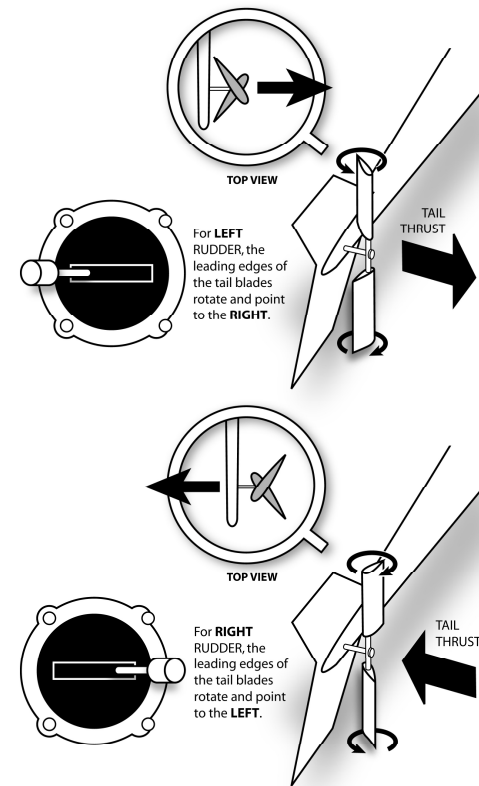

Figure 11.8 – Check for Correct Tail Rotor Blade Movement
- Now, connect the tail servo to the gyro. First check that the direction of the servo is correct by moving the rudder stick on your radio as shown in Figure 11.8 on the next page.